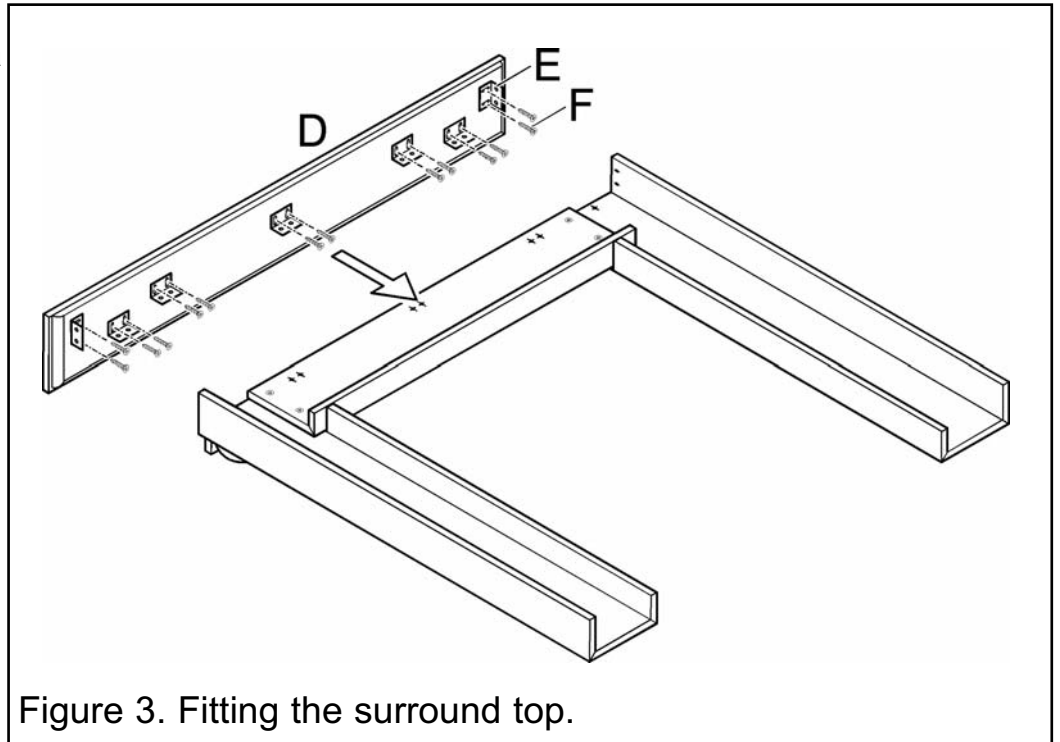

Figure 3. Fitting the surround top.
- Lay the surround top (D) face down on a flat, level surface. Supplied with the surround are seven brackets (E). Locate these as in figure 3 and secure using 14 (F) screws supplied. Fitting the top is made easier if the screws are not fully tightened, as this helps when locating the screws into the surround.